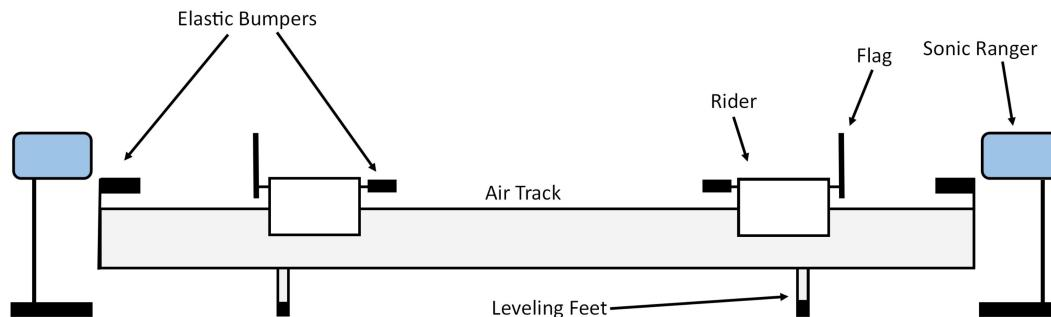

Figure 2: Schematic Diagram of the Air Track Setup
The air track should be set up according to Figure 2 with a sonic ranger at either side of the air track, both connected to the data-collecting computer. Remember the sonic rangers should be set to “cart” mode for better accuracy by moving the switch at the top to the cart icon. Prior to taking any data, you should use the leveling feet to level the air track so that a glider placed on it would drift as little as possible. Note that a small amount of drifting might be inevitable because there might be some bowing or sagging of the track due to its weight.
3. Put the two gliders onto the air track and make sure that the bumper plate is facing the rubber band bumper, and the two flags are facing the sonic rangers respectively, as shown in Figure 2.